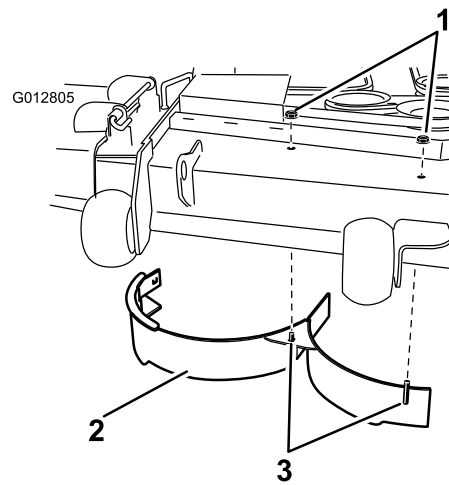

Figure 2
8. Install the right baffle to mower deck as shown in Figure 2. Use two lock nuts (5/16 inch) to secure the welded posts of the right baffle to the top of the mower deck at center and right of center positions. Hand tighten the fasteners.